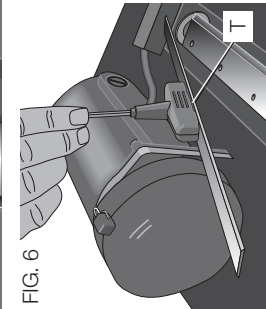

FIG. 6
10. Use the magnet (T) on the top of the T-wrench (Fig. 6) to attract the knife. Avoid touching it with your fingers.